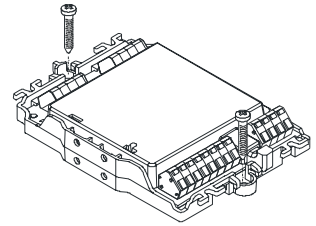

Fig. 2
- On a plane surface (Fig. 2)
5. Use two M3 x 12 screws to fit the module in the housing (Fig. 2).
1. Secure input/output module with two screws on a plane surface (Fig. 2).
- Auf einer planen Oberfläche (Fig. 2)